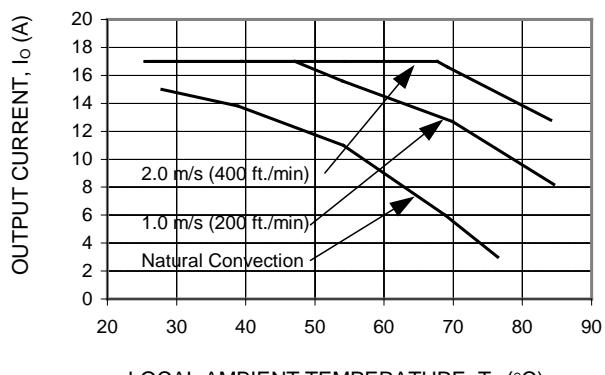

Figure 53. Output Power Derating for JRW017A0B (Vo = 12V) in Transverse Orientation with no baseplate; Airflow Direction From Vin(+) to Vin (-); Vin = 48V.
Note that the natural convection condition was measured at 0.05 m/s to 0.1 m/s (10ft./min. to 20 ft./min.); however, systems in which these power modules may be used typically generate natural convection airflow rates of 0.3 m/s (60 ft./min.) due to other heat dissipating components in the system. The use of Figures 53 - 59 are shown in the following example:
Determine airflow (V) (Use Figure 53):